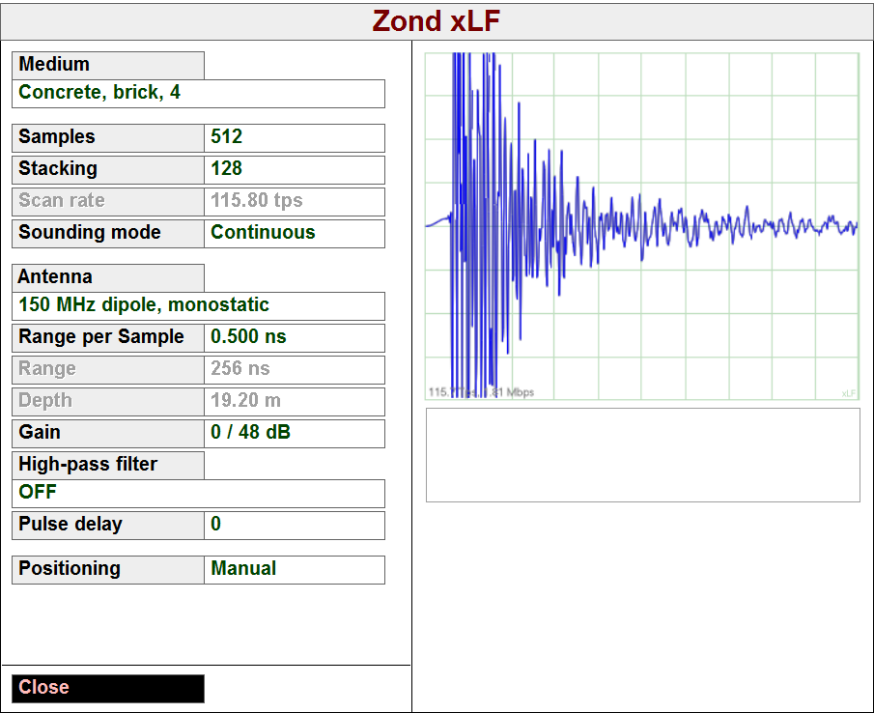

Fig. 9.2d. xGPR family settings.
- **xGPR** settings interface shown on Fig. 9.2d.